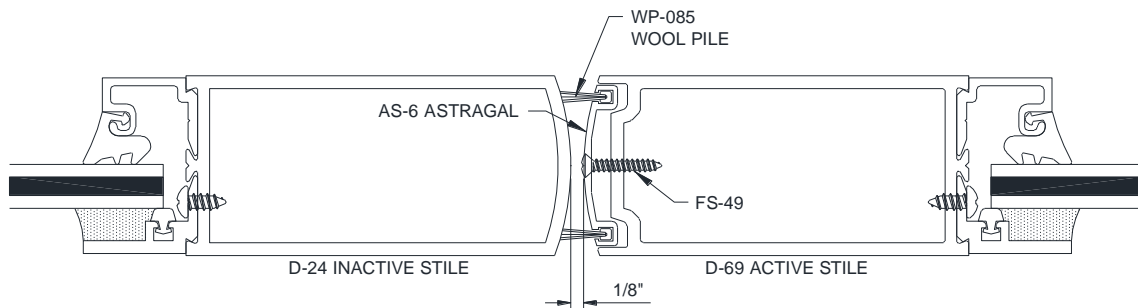

Figure 41: Astragal Adjustment
- Adjust the **AS-6** Astragal by loosening or tightening the **FS-49** fastner. Reference *Figure 41* as required.